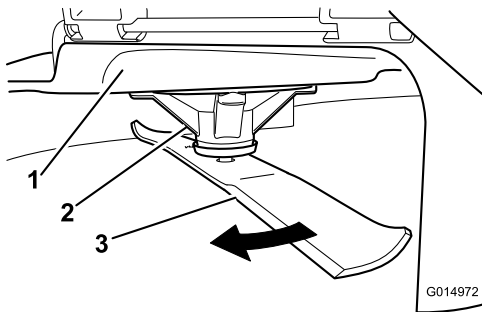

Figure 45
2. While wearing thickly padded gloves, or other adequate hand protection, slowly rotate the blade to be measured into a position that allows you to effectively measure the distance between the cutting edge and the level surface that the machine is on (Figure 45).